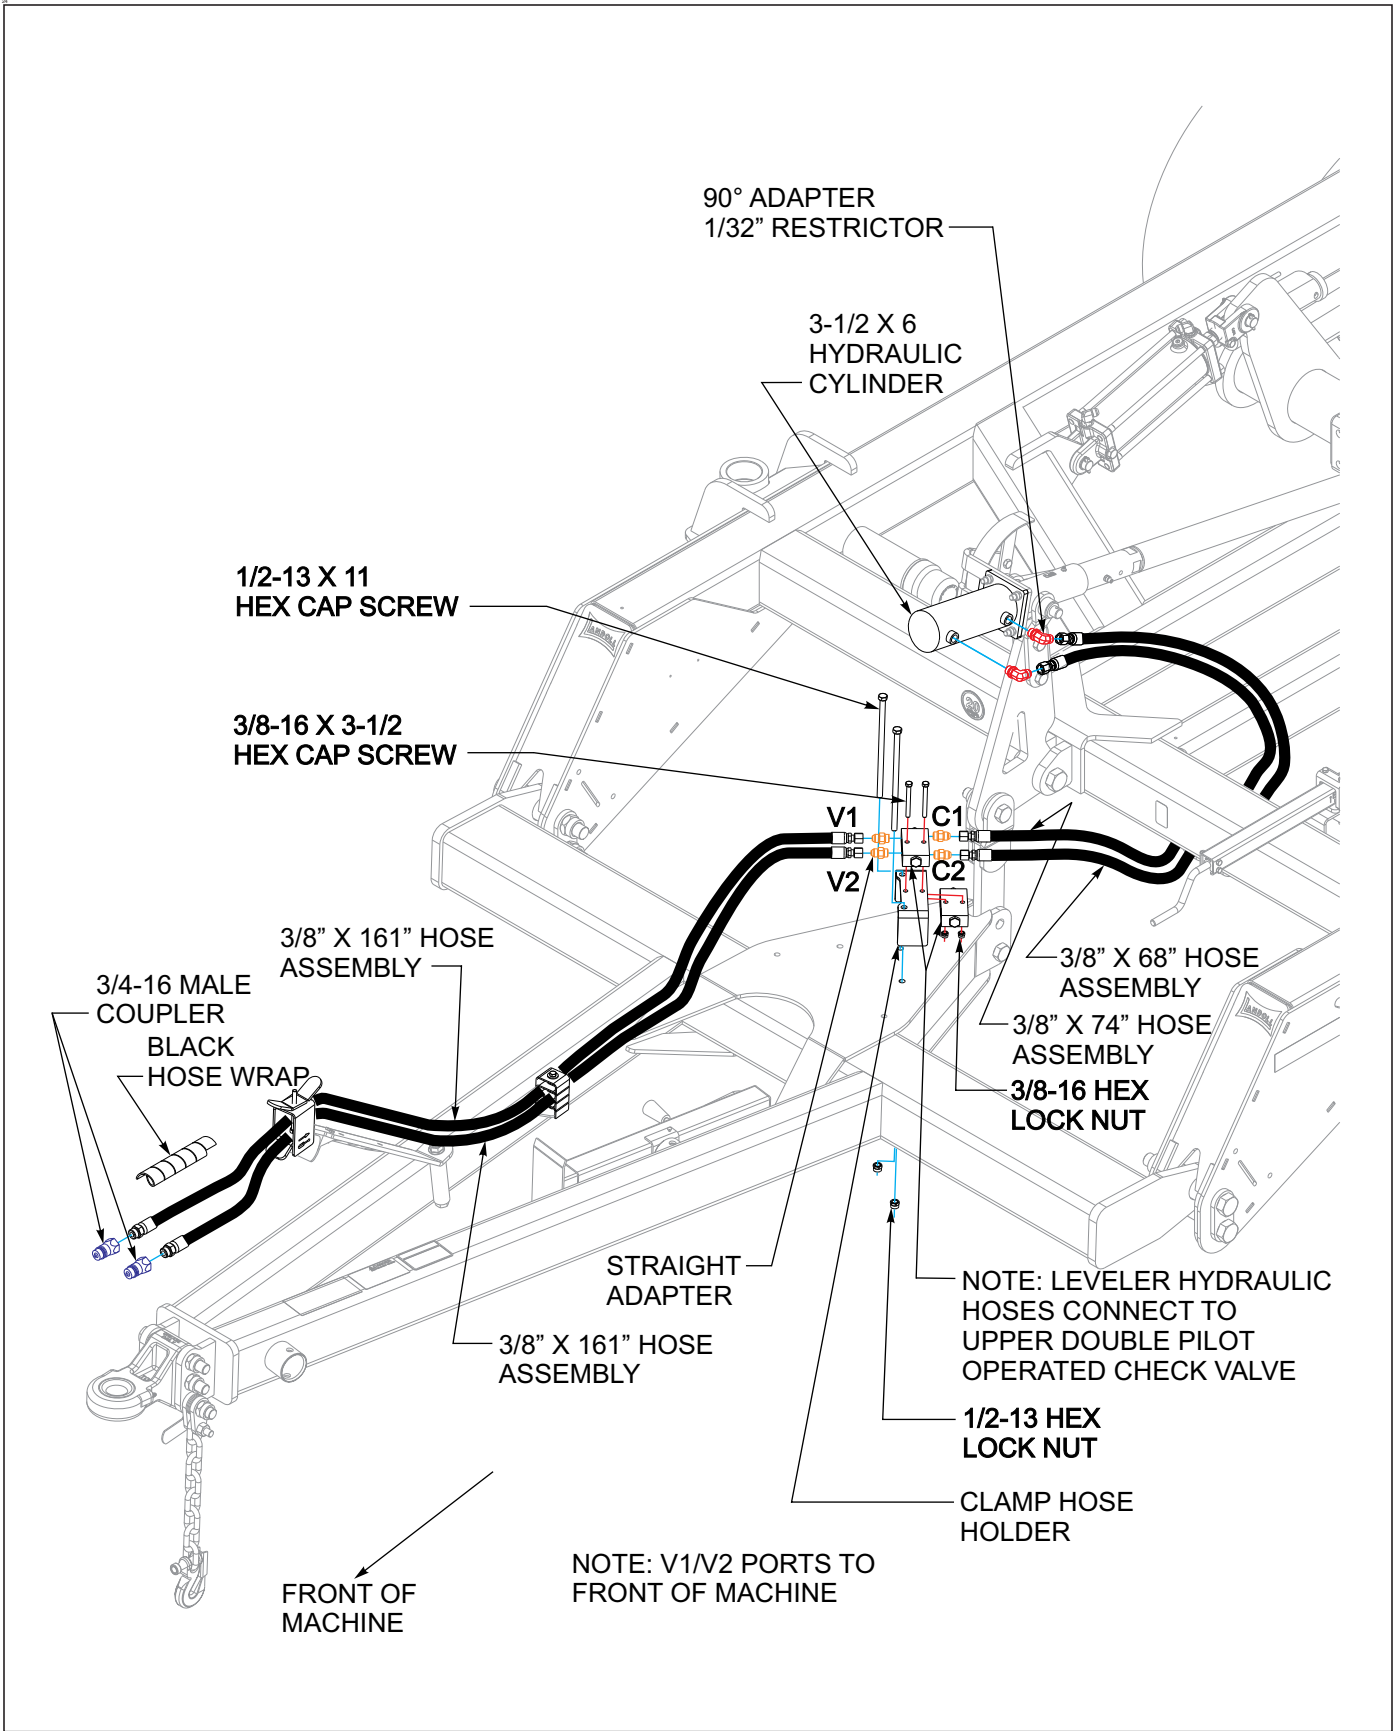
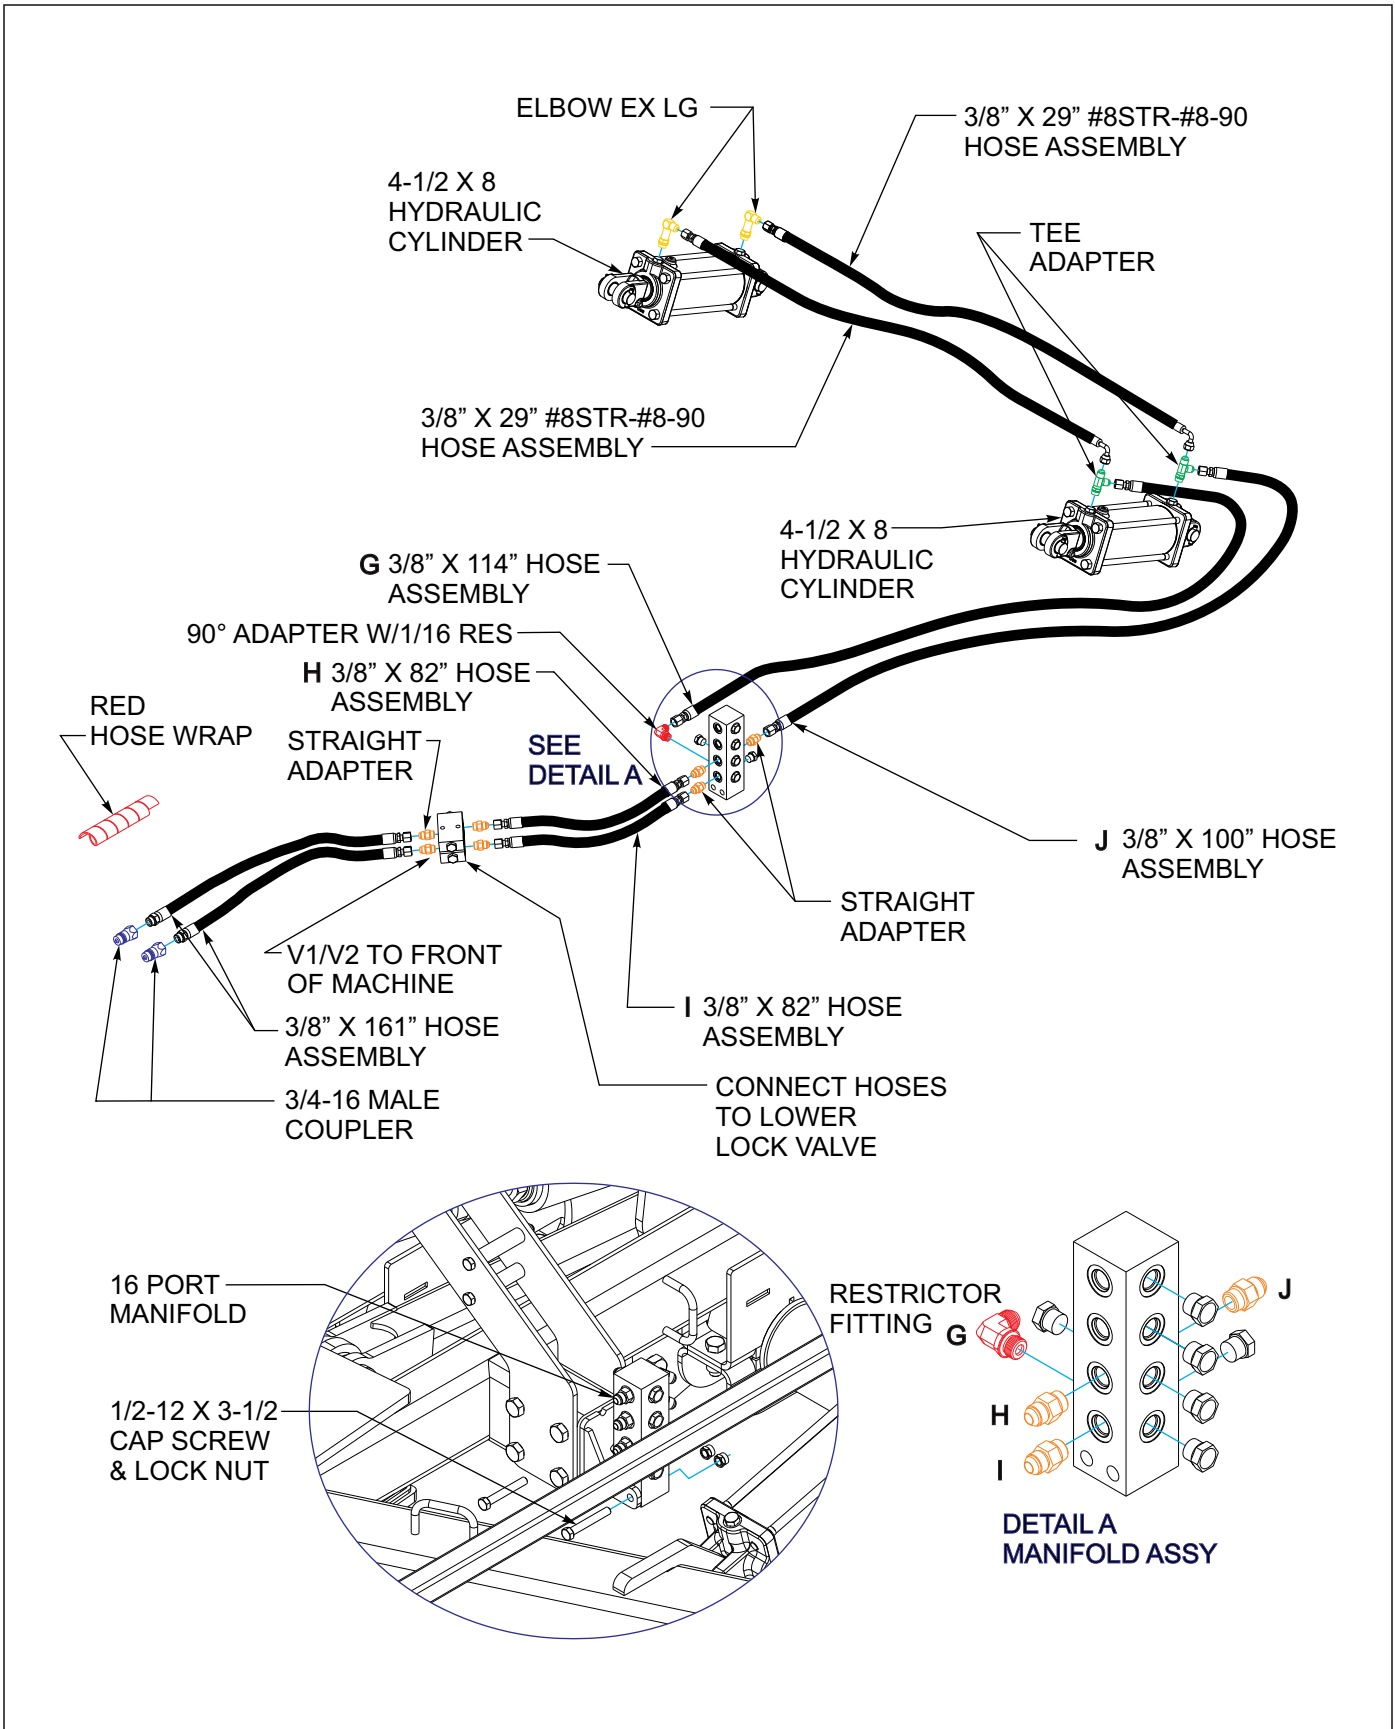

Figure 3-7: Leveler Hydraulic Installation
Figure 3-11: Gang Hydraulic Installation 7510-14'
*For leveler hydraulic installation (**See Figure 3-7.**)*
Refer to Figures 3-11 and 3-12 for gang hydraulic diagrams.
Refer to Figures 3-7 for leveler hydraulic diagram for all models.
3. The disc gang angle cylinders (See Figure 3-11. 7510-14') use the following fittings: The left master base end on the center frame requires a tee fitting and the rest of the ports on the center frame cylinders are regular 90 degree fittings. Both front wing gang cylinders require regular 90 degree fittings on both ends. Both rear wing gang cylinders have a 45 degree fitting on the base end and a black 90 degree 1/16 restrictor fitting on the rod end.
4. At the rear of the hitch (See Figure 3-4.) there will be two identical valves installed (Double Pilot Operated Check Valves) with 3/8 x 3-1/2" bolts and nuts onto the hose clamp. Install these valves with the V1/V2 ports facing the tractor and the C1/C2 Ports facing the rear. Install straight o-ring adapter fittings into each of the 8 outlets. When plumbing the hydraulic disc gangs or the leveler it does not matter which hose goes to C1/C2 or V1/V2, leveler hydraulics (upper valve, See Figure 3-11.) or gang hydraulics (lower valve, See Figure 3-7. just so they are facing the correct direction and hooked to the cylinder or the tractor correctly.
5. Install Leveler cylinder hoses and couplers (See Figure 3-7.) Wrap leveler hoses with black hose wrap.
6. Install adjustable disc gang cylinder hoses and couplers, (See Figure 3-11. ) Wrap disc gang cylinders with red hose wrap.